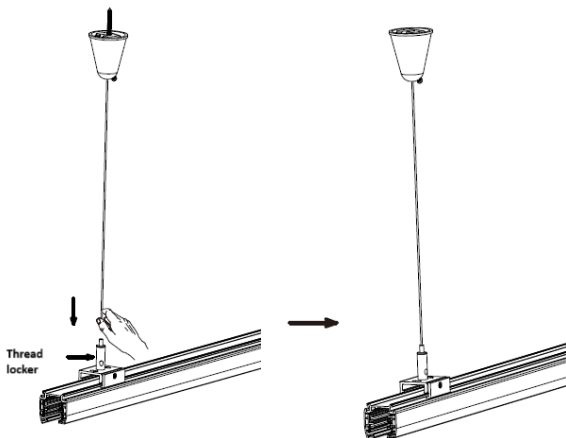

Fig. 3
- Push each suspension wire hanging from the ceiling fixings into one of the adjustment connectors (thread locker) until it appears out of the hole in the side (see Fig. 3)